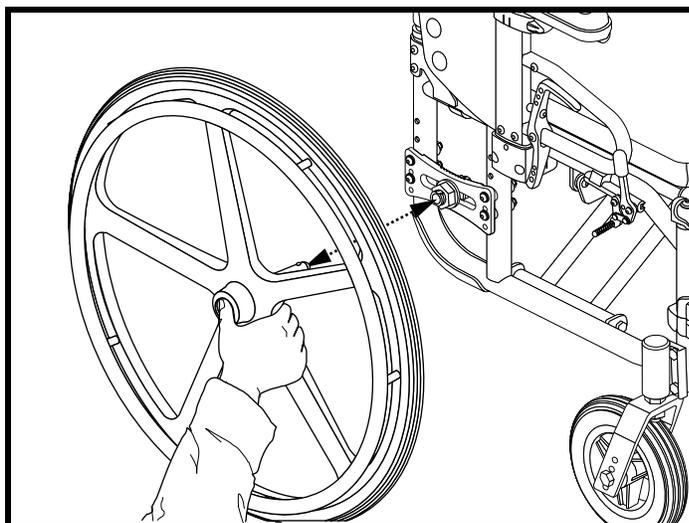
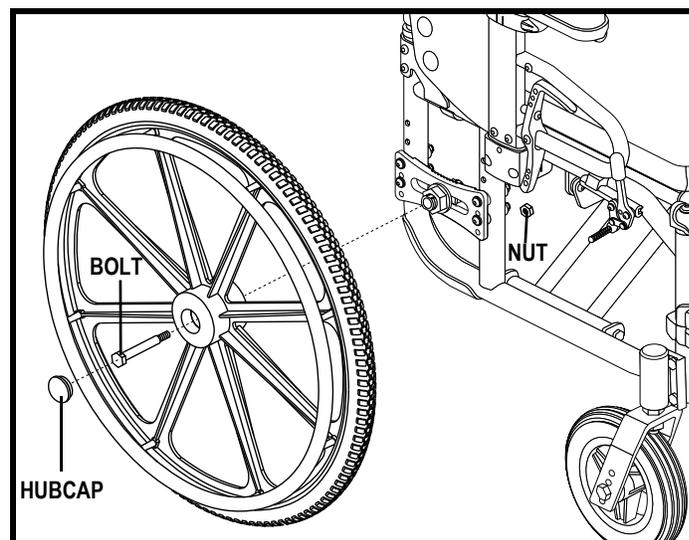

Figure 14. Quick Release Drive Wheel
Figure 15. Bolt-on Drive Wheel
1. Remove the drive wheel. If your wheelchair is equipped with a quick-release drive wheel, press the quick-release button and pull the drive wheel off. **See figure 14.** If your wheelchair is equipped with a bolt-on drive wheel, remove the hubcap, and then remove the nut and bolt. **See figure 15.** Pull the drive wheel off of the wheelchair.
1. Remove the drive wheel. If your wheelchair is equipped with a quick-release drive wheel, press the quick-release button and pull the drive wheel off. **See figure 14.** If your wheelchair is equipped with a bolt-on drive wheel, remove the hubcap, and then remove the nut and bolt. **See figure 15.**
1. Remove the drive wheel. See figure 14 or 15.